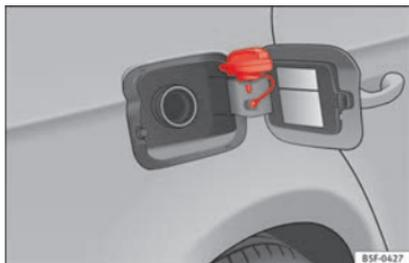

Fig. 42
- Place it in the space on the hinge of the open flap »» Fig. 42.